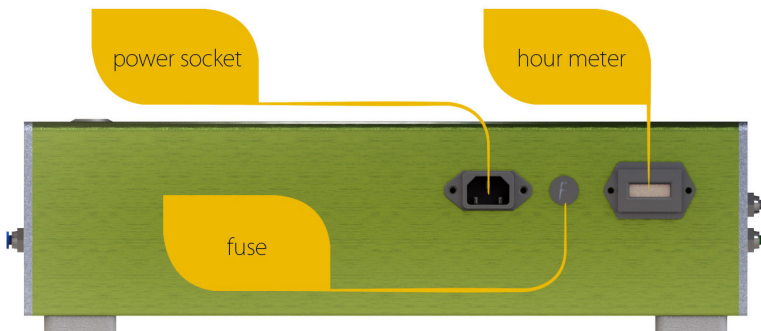

Figure 3. Backside of the Autoperfuser™ OS2100
- Connect the power cord to the power socket and plug into the wall power socket (Figure 3).